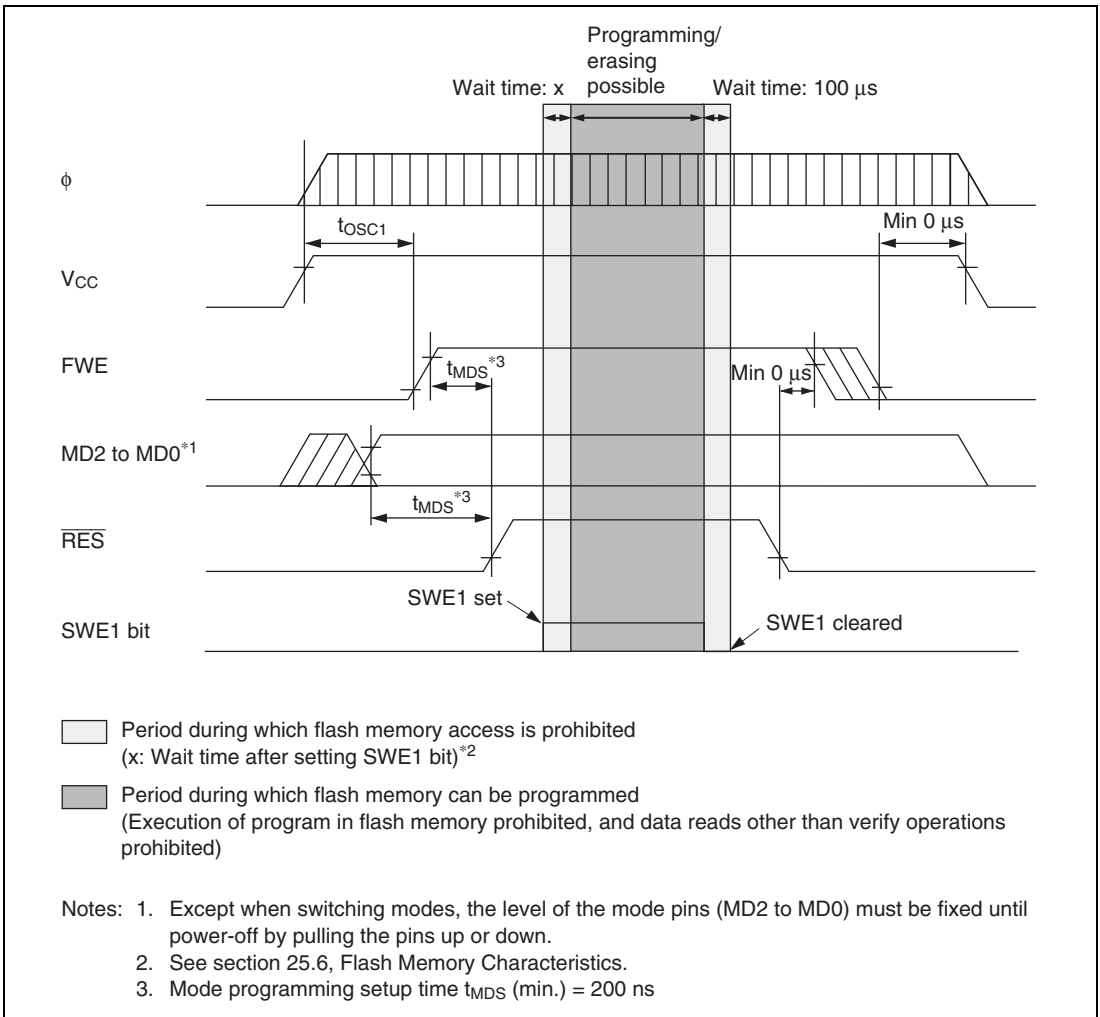

Figure 22.19 Power-On/Off Timing (Boot Mode)
(2) Powering on and off (see figures 22.19 to 22.21)
(3) FWE application/disconnection (see figures 22.19 to 22.21)